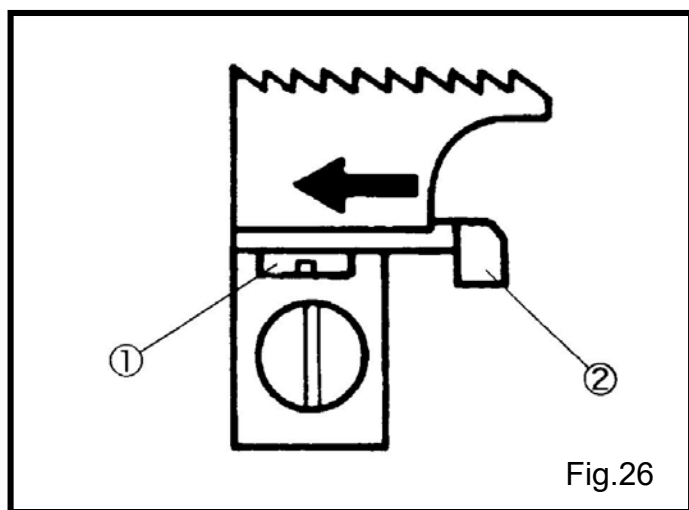

Fig.26
- (1) 放鬆螺絲①，移動針檔②（後）到最後面。然後輕微鎖緊。減少針寬時可以省略。(Fig.26)
- (1) Loosen the screw① and move the needle guard (rear) ② most rearward. Then tighten it slightly. This is skipped when decreased the stitch length.(Fig.26)